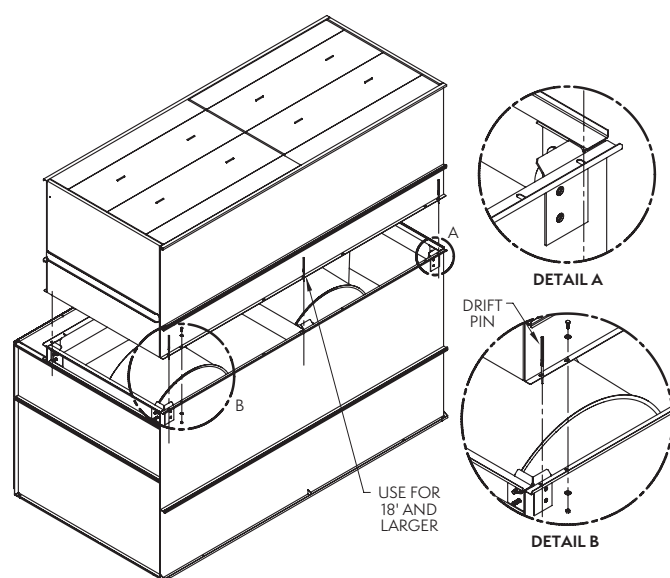

Figure 12 – Mating Casing (Top) Section to Basin & Fan (Bottom) Section
Lower the casing section to within several inches of the basin and fan section, making sure the two sections do not touch and the sealer tape is not disturbed. Place drift pins (see **Figure 12 and 13**) in at least three (3) of the corner mounting holes and gradually lower the casing section into place using the drift pins to guide the section down accurately onto the mating flange. On long sections, 18 feet (5.5 m) and longer, drift pins should be used midway along the sides as well.